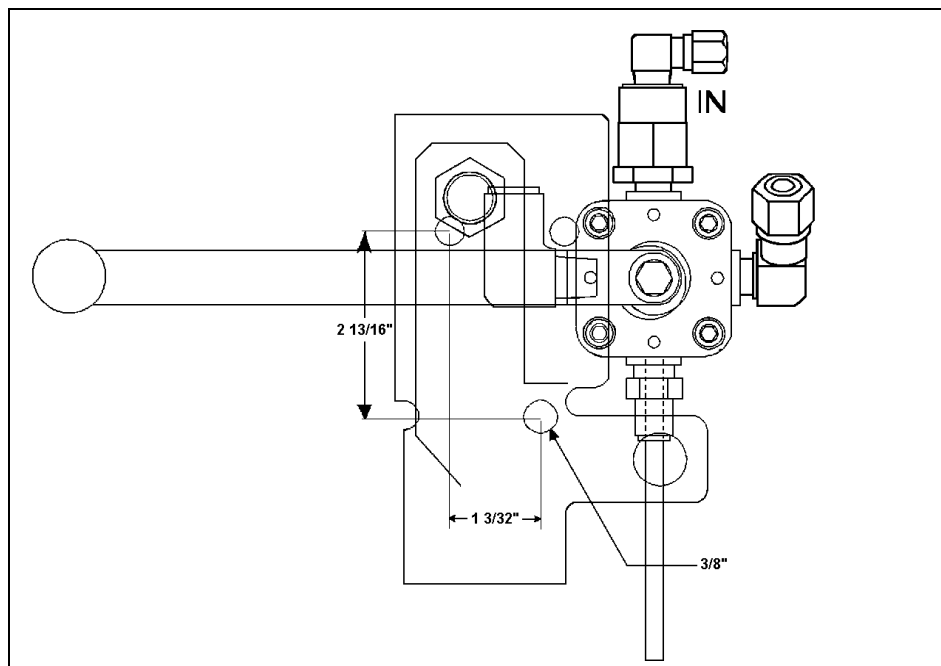

FIGURE 1: DRILLING THE BRACKET
7. Taking the left hole as a reference, drill a $\frac{3}{8}$ " (9mm) hole on the bracket already installed on vehicle; $2\frac{13}{16}$ " (72mm) lower and $1\frac{3}{32}$ " (28mm) to the right (refer to fig.1).